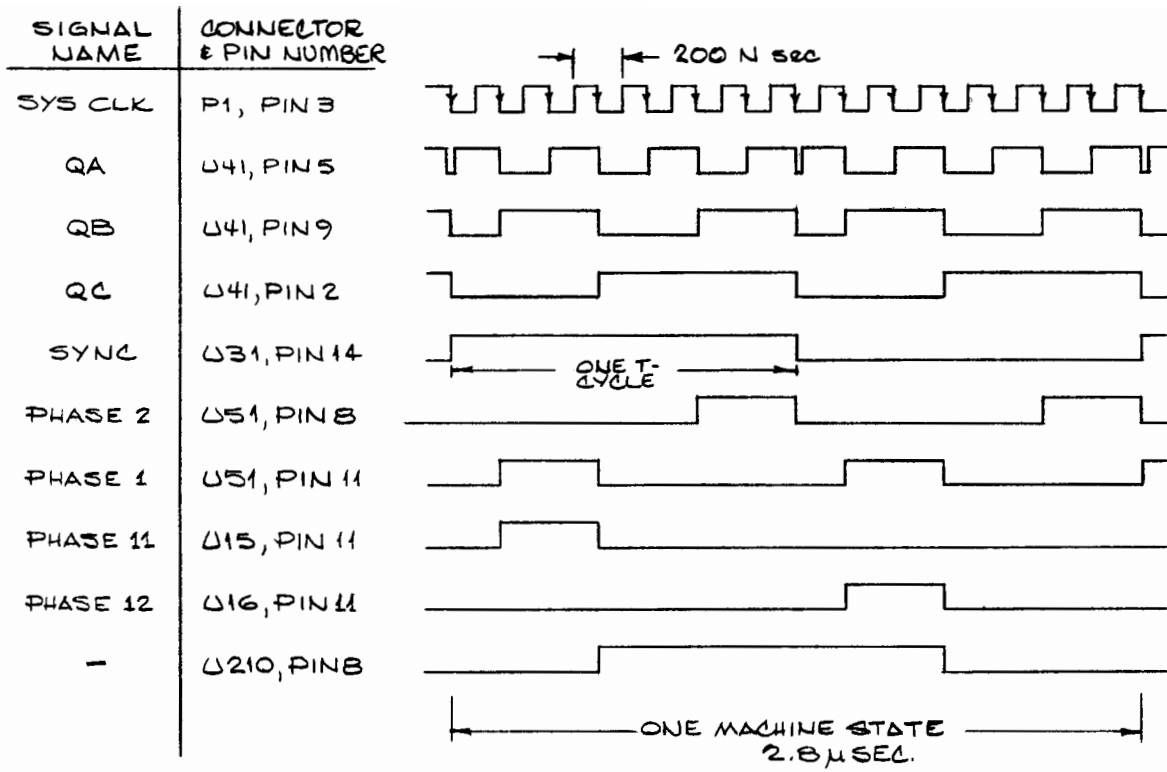

Figure 4
- 3.2.2.2 SYNC flip-flop. The microprocessor SYNC output signal (Pin 14) goes high at the beginning of a processor T-cycle and goes low at the midpoint of the cycle, as shown in the clock generator timing diagram in figure 4. Flip-flop U210 at Pin 8 latches SYNC on the PHASE 2 fall edge. The SYNC flip-flop outputs generate two additional signals, PHASE 11 (U15, Pin 11) and PHASE 12 (U16, Pin 11). These signals provide timing information to the rest of the Processor (8008-1) Module.